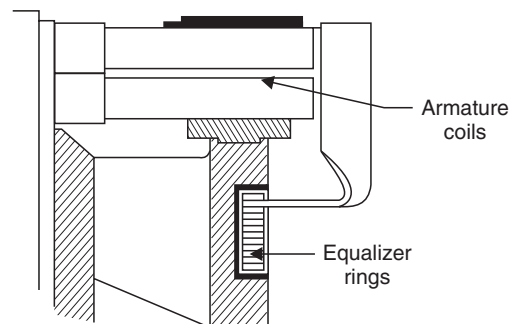

Fig. 11. Ring type equalizers.
- In D.C. machines two layer winding with diamond shaped coils is used. The coils are usually former wound. In *small machines*, the coils are held in position by band of steel wire, wound under tension along the core length. In *large machines*, it is useful to employ wedges of fibre or wood to hold coils in place in the slots. Wire bands are employed for holding the overhang. The *equalizer connections* are located under the overhang on the side of the commutator. Fig. 11 shows a typical arrangement for equalizers. The equalizers can be accommodated on the other end of the armature also.